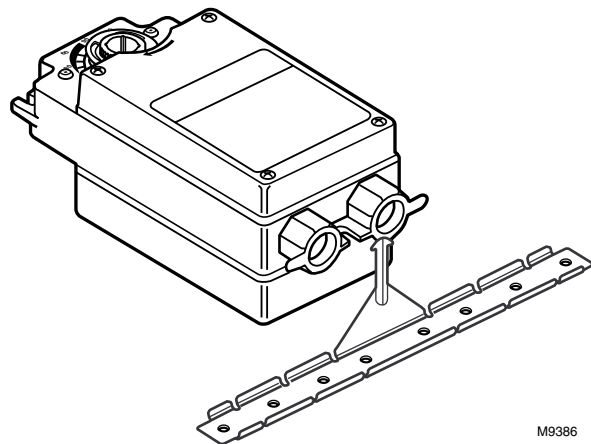

Fig. 2. Installing mounting bracket on ML6275 Direct Coupled Actuator.
- ❶ Place the ML6275 Direct Coupled Actuator over the damper shaft.
- ❷ Position the actuator for best access to the actuator damper shaft locking screw.
- ❸ Install the mounting bracket (see Fig. 2) and adjust it to support the actuator at the correct height. Mark the screw holes for installing the mounting bracket on the damper housing.
- ❹ Remove the mounting bracket and actuator.
- ❺ Drill or center punch the starting holes for the mounting bracket screws (or use no. 10 self-tapping sheet metal screws).
- ❻ Place the actuator and mounting bracket back into position over the damper shaft and install the mounting bracket screws.
- ❼ Tighten the two 8 mm by 12 mm long set screws firmly against the damper shaft (maximum tightening torque is 100 lb-in.).